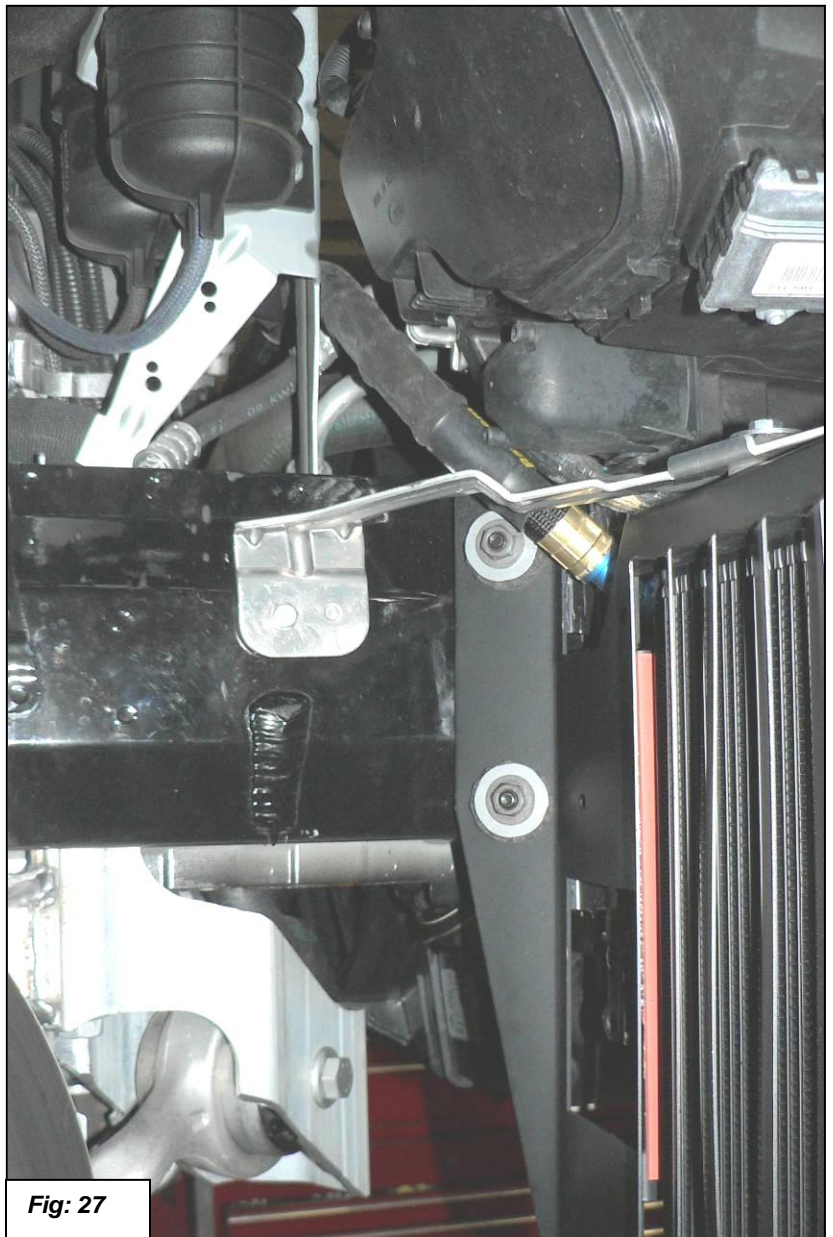

Fig: 27
28. Feed the oil line in between the headlight and the bracket as shown in figure 23. Attach the oil cooler assembly to the mounts as shown with the two stock 8mm nuts and the 6mm bolt. Torque nuts to 20Nm (15ft-lbs.) and bolt to 8Nm (6ft-lbs.). See figure 27.